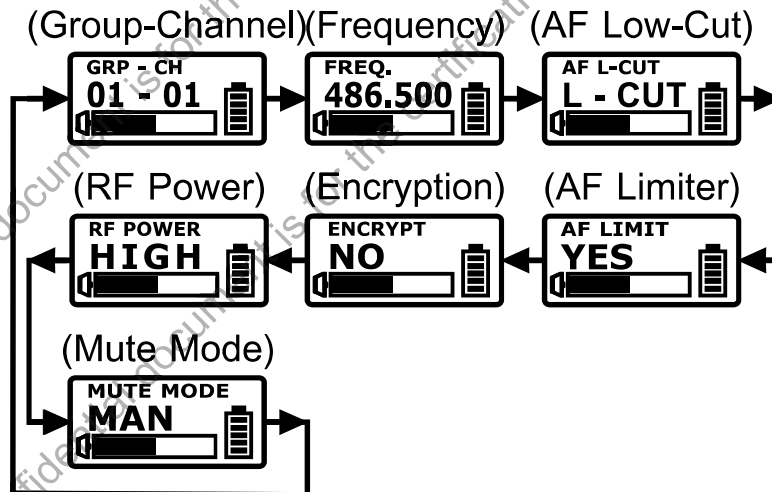

Fig. 8
- ⑯ Functions
- ⑰ Parameters
- ⑱ Battery Status
- ⑲ Audio Signal Level Bar
2. ACT-800H LCD. Fig. 8: